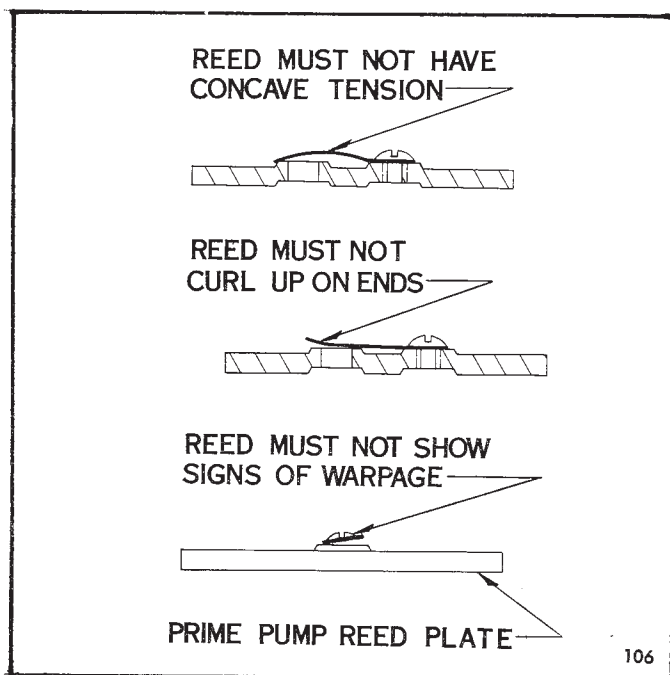

FIGURE 11 — PROPER INTSALLATION
4. Check tension of fuel pump reeds. The reeds should be flat, and cover the holes in the reed plate. Check reeds for flatness — maximum warp- age at center not to exceed .0015". Straighten, if necessary. When reeds are assembled to plate, they must seat flush with no initial tension, to a mixi- mum of .003" open. The reeds should not stand open, should not be warped, bent or bowed, as il- lustrated in Figure 11.